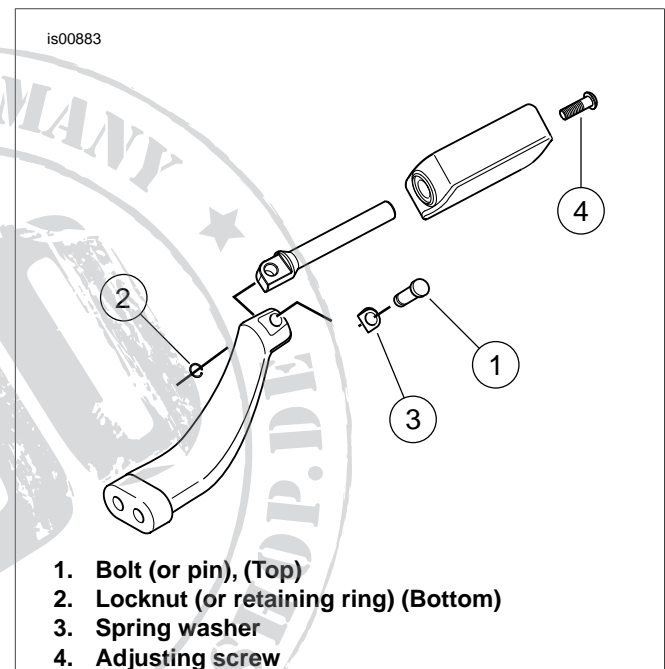

Figure 1. Footpeg Removal/Installation
1. See Figure 1. Remove the locknuts and screws (some models may have a pin (1) and retaining ring (2) installed) that hold the existing footpegs in place. Save all hardware for installation of the new footpegs.
2. Remove the existing footpegs along with the spring washers (3). Save the spring washers for later installation.
5. Refer to Figure 1. For each footpeg, loosen the adjusting screw (4) in the recessed hole until the footpeg rotates. Position the footpeg as desired, then tighten the adjusting screw to 21 ft-lbs (29 Nm).